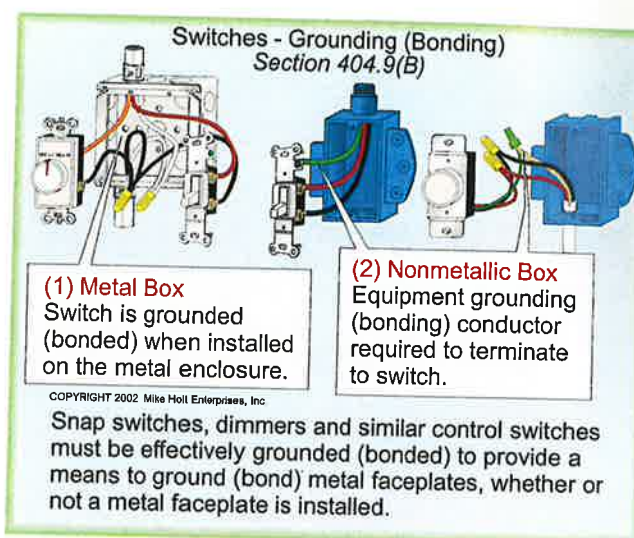

Figure 250-15
CAUTION: Often the term ground or grounded is used when the proper term would be bond or bonded. For example, 404.9(B) specifies that "snap switches, including dimmer and similar control switches, shall be effectively grounded." Naturally, we are not expected to intentionally connect the switch to earth; we shall "bond" the metal yoke of the switch to a low-impedance path so that dangerous voltage from a ground fault can be quickly removed by opening the circuit-protection device. **Figure 250-15**